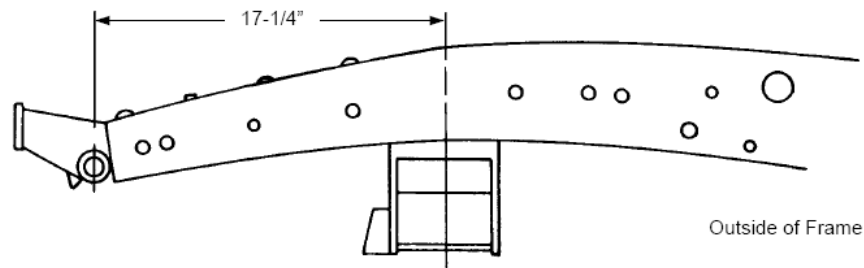

Figure 3- Center of Crossmember & Spindle Centerline
6. Measure straight back 17-1/4" from the center of the front spring shackle hole in the frame and make a vertical line. See **Figure 3**. This will be the center of the crossmember and the spindle centerline. Slip the crossmember up into the frame and center it on the centerline mark. If it does not fit up into the frame, grind the sides of the crossmember uprights so you can get it into this position. Make sure that the crossmember is seated fully on the underside of the frame. Tack weld in place.